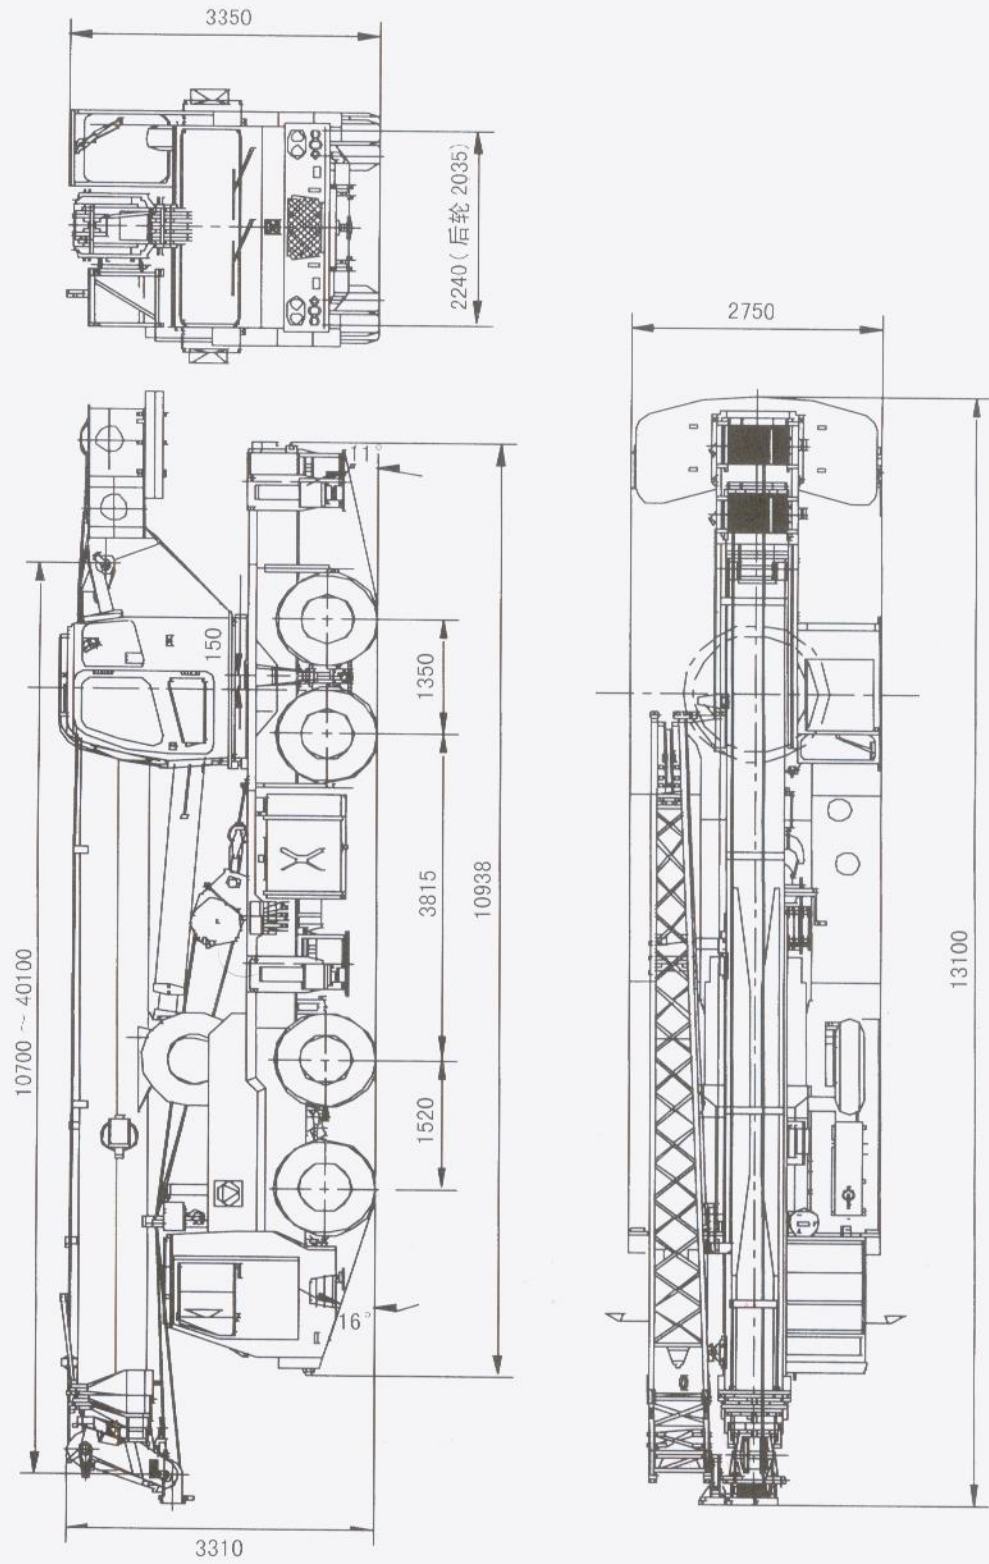

Fig. 2-1 QY50K Truck Crane Outline
- (1). QY50K Truck Crane Outline (Fig. 2-1 for XZJ5372JQZ50K and XZJ5393JQZ50K);